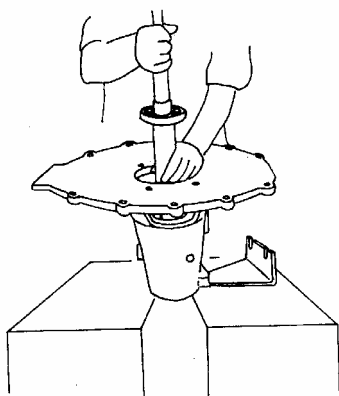

Fig. 11
- 15) Insert the front bearing (pos. 10) onto the pump shaft (pos. 9). (**Only CGD series**).
- 16) Insert the rotor into the support (pos. 1) **fig. 11. (Only CGD series)**